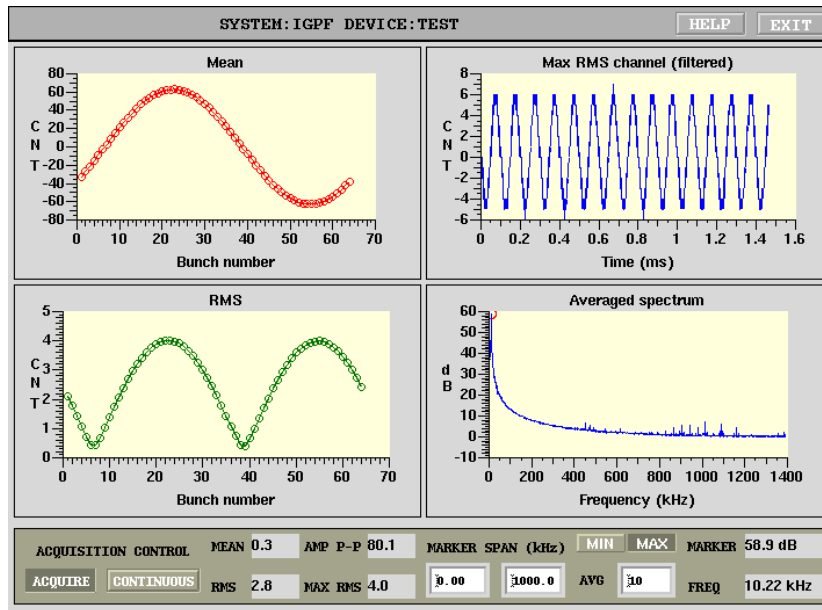

Figure 11: Waveforms panel
**Acquire** Acquisition trigger pushbutton for internal trigger. This control is no longer actively used - see the waveform panel (Fig. 11).
A set of IOC subroutines postprocesses the data in the real-time and provides four concise plots displayed in the waveform panel shown in Figure 11. The four plots are: bunch-by-bunch mean and root mean square (RMS) of bunch oscillations, time-domain signal of a bunch with the largest RMS. The last plot is obtained by performing the fast Fourier transform (FFT) on each of the bunches and quadratically averaging the resulting spectra. This plot aliases all coupled-bunch eigenmodes to a frequency span from DC to  $\omega_{\text{rev}}/2$ . Such a spectrum allows the operator to very quickly check how well the system damps the coupled-bunch motion.